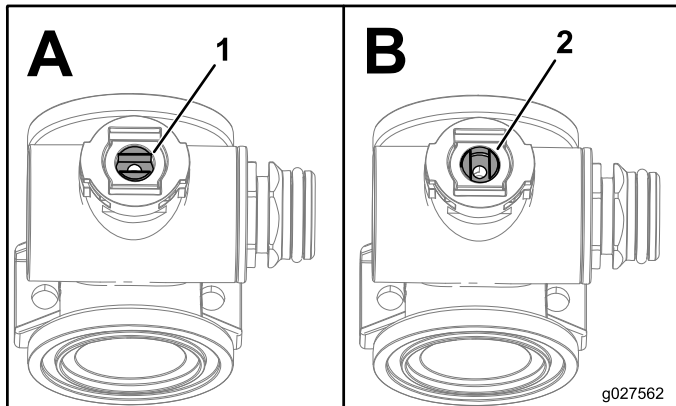

**Figure 138**
3. Remove the section valve manifold from the machine (Figure 138).